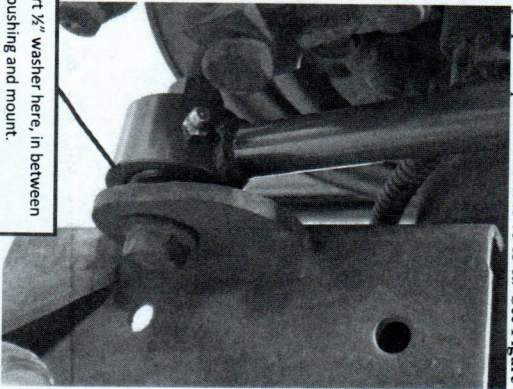

Figure 2. Correctly Installed Axle Side Sway Bar End Link
4. Bolt the axle side of the links to the axle brackets. Install one of the included $\frac{1}{2}$ " washers between the sway bar link bushing and the mount on each side of the vehicle. It may be necessary to raise or lower the axle on one side in order to get the hardware to line up. Make sure the zerk fitting is facing toward the rear of the jeep. Torque lower bolt to 75 lb-ft. See Figure 2.